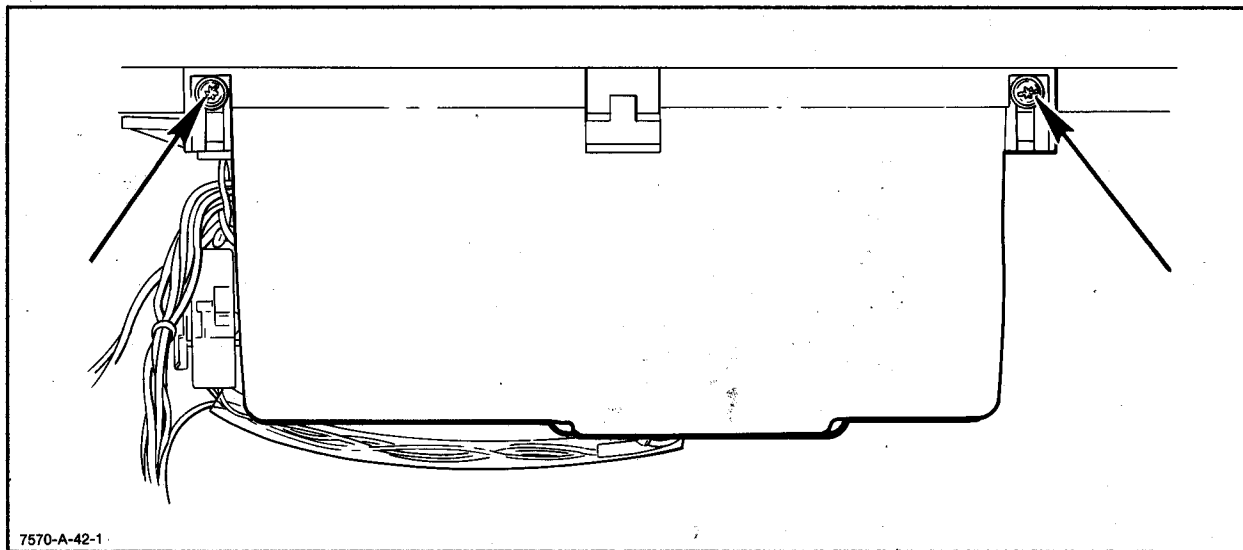

Figure 6-43. Fan and Transformer Module
- h. Remove the two machine screws from the top of the fan and transformer module. See Figure 6-43.